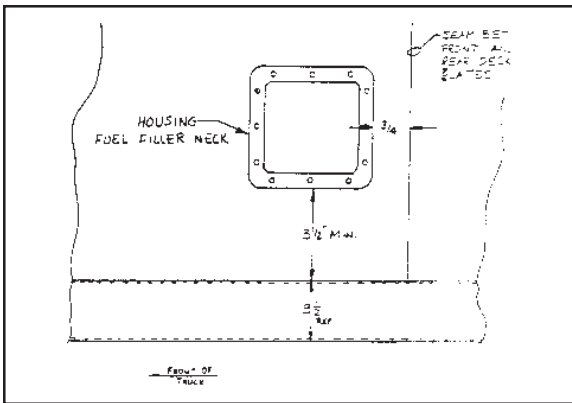

Figure 7-10.
18. Cut hole in body for fuel tank filler neck if required. (See Figure 7-10.)